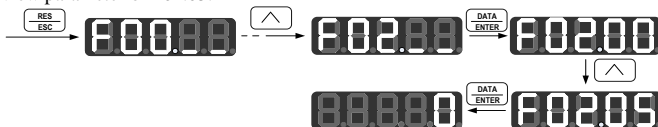

Figure 4-4 Procedures for Viewing Parameter
- Select corresponding function code and view its parameter via selecting main menu and sub-menu. For instance: for the operation procedures shown in Figure 4-4 to view parameter of F02.05.